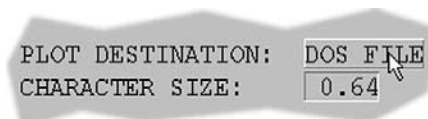

Figure 11. Accumark™ Plot Destination button.
- 5. Click on the **Plot Destination** button until it reads *DOS FILE*. (Figure 11.)